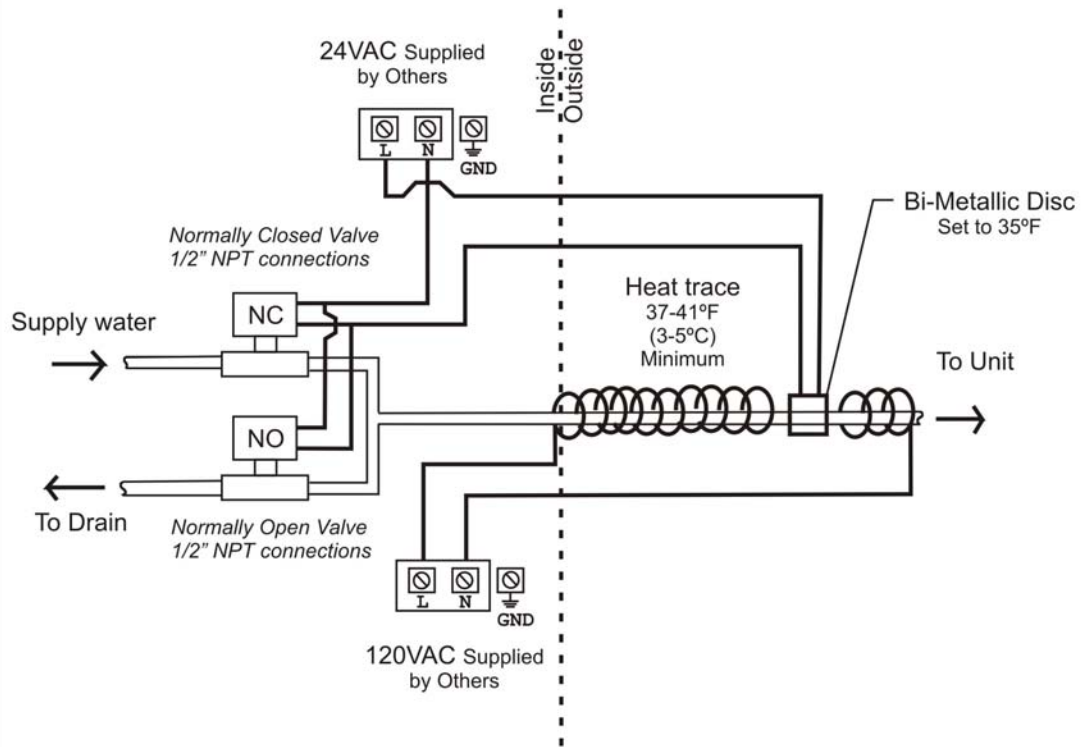

Figure 5. Normally Open / Normally Closed Valve Arrangement
- (1) The water supply line is critical to the proper operation of the humidifier. Humidifiers primarily operate in the cold winter months when freezing is a serious issue. To prevent freezing of the humidifier, a water supply line freeze protection system should be ordered and used in conjunction with a normally open / normally closed valve arrangement described below. NORTEC's limited warranty does NOT cover damage resulting from freezing.
- (2) There are two alternative configurations for the supply line plumbing. The first method involves using a normally open / normally close valve arrangement (see Figure 5). The valves should be installed inside of the building to prevent freezing. The water should flow from the supply through a normally closed valve. This valve should always be closed unless energized by the humidifier. This prevents water from flowing to the humidifier when there is no demand, or in the event of a power failure. After the first valve the water should flow to a tee. The central branch of the tee is to be plumbed to the humidifier. The remaining branch of the tee should be connected to a normally open valve. This valve remains open to allow water to drain back from the outdoor lines when there is no demand from the humidifier or in the event of a power failure. When energized by the humidifier, this valve will close and allow water to flow to the humidifier. With this configuration the outdoor line will be empty unless the humidifier requests water. This effectively eliminates the chance of water freezing in the outdoor portion of the line.